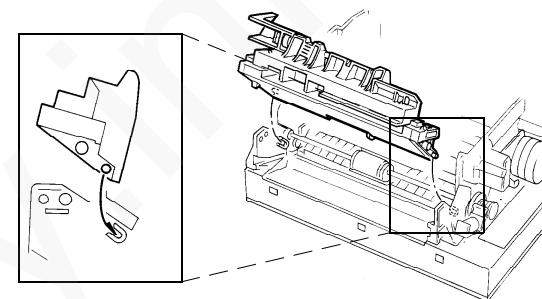

Figure 2. Right frame assembly
6. Press out gently on the front and rear frame to release the right frame assembly (figure 2).